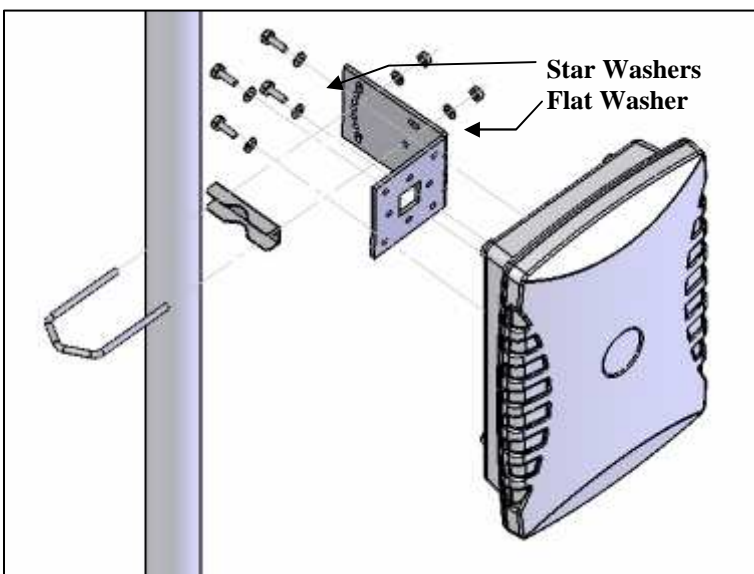

Figure 6. Mast mounting
2. Attach the L bracket to the antenna by means of the four M6 x 16mm bolts provided. The figure 6 illustrates this for vertical polarisation.
3. Attach the enclosure to a mast (diameter 40-50mm) using the Econo-bracket assembly as shown in figure 6.